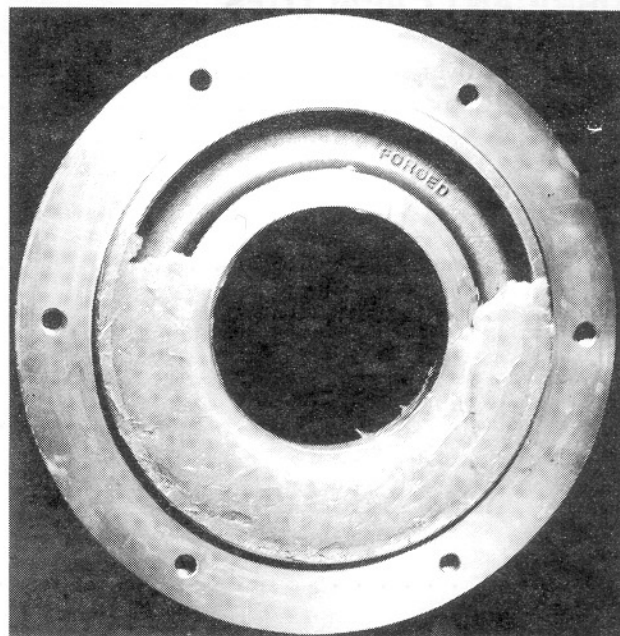

Fig. 10 - Grease Position 18929
b. Grease should be solidly packed only into lower 180° to 240° (dependent on the part and specified quantity) of the cap or cover keeping the ungreased portion at the top, Fig. 10.